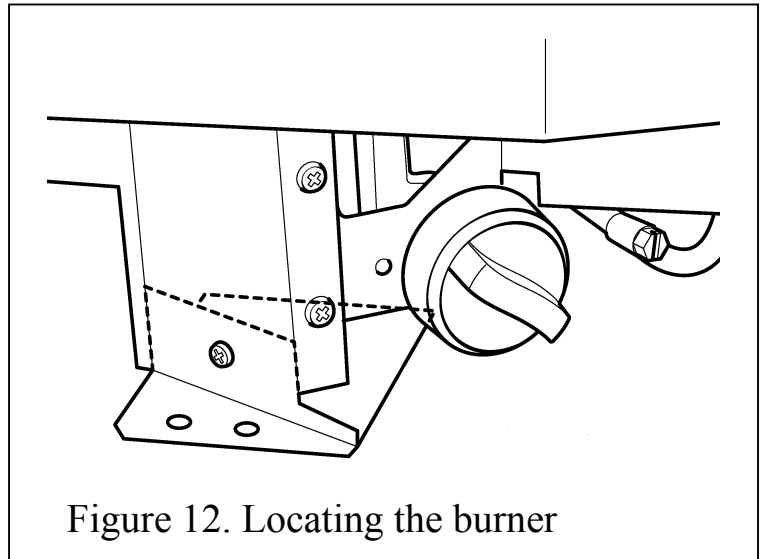

Figure 12. Locating the burner
- Place the burner assembly in position against the convector box bottom location bracket. See figure 12).